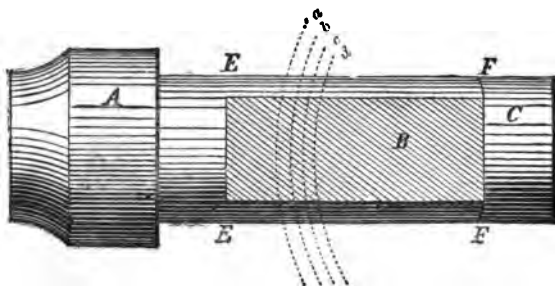

FIG. 29.—SQUARING CYLINDER BY ECCENTRIC CUTTER.
Passing from traced, or mechanically engraved patterns—a variety of which will suggest themselves in practice—we must go on to show how this instrument is used as a carving tool, and especially to cut out rectangular work. Figure 29 represents a cylinder which has been turned, and is held in the chuck (A), and by the back centre, if necessary. The part B is flat, and to cut it so the eccentric cutter is used, with a small, flat, or round-ended cutter in it. The slide-rest is adjusted so as to place the stem of the instrument exactly at right angles to the lathe bed and mandrel. The ornamental rest has a cradle, to ensure this position, but